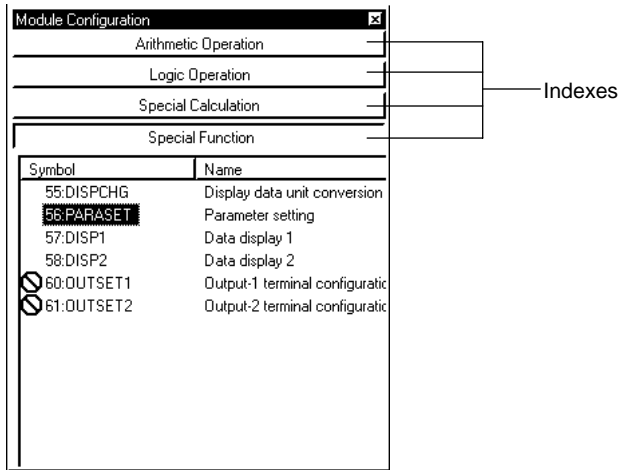

Figure 12.6.3 [Module Configuration] Dialog Box
- ≠ In the [Input Block] dialog box, double-click a blank box. The [Module Configuration] dialog box (Figure 12.6.3) appears.